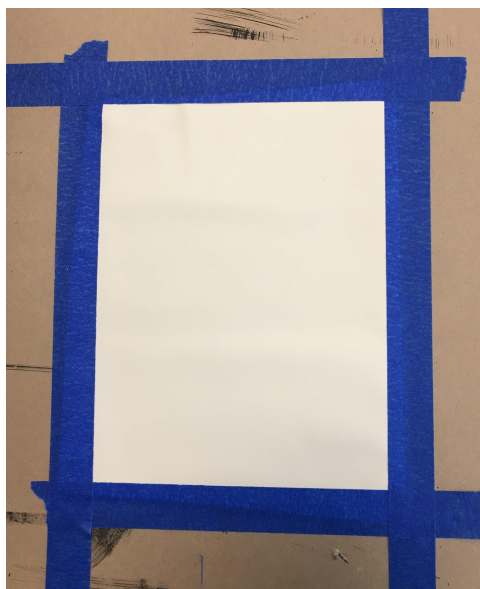

Figure 12: Latex sheet taped to cutting board
4. Tape down each latex blank onto a flat surface like a cutting board using painter's tape (Fig. 12).